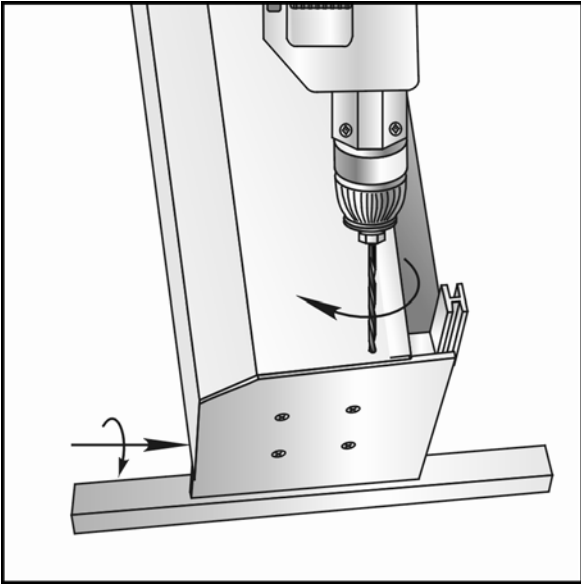

Fig. 2.7
5. Mark and drill jointly $\varnothing 4.2$ mm holes in front raised edges of the end caps and shutter box cover (two holes from each side of shutter box) for further installation of rivets (*fig. 2.7*).